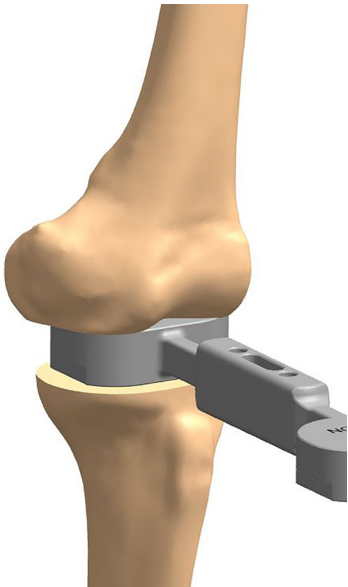

Figure 19
1. The 10mm end of the Extension Spacer Block should easily insert into the extension gap. (Figure 19).